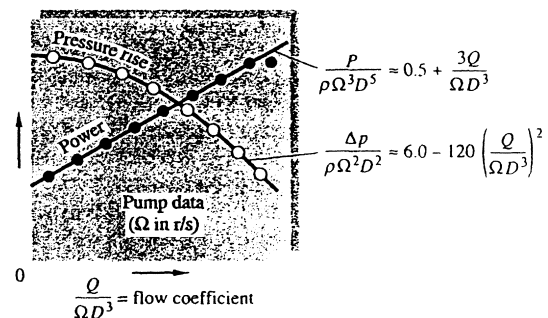

Fig. P5.61
**5.61** If viscosity is neglected, typical pump-flow results are shown in Fig. P5.61 for a model pump tested in water. The pressure rise decreases and the power required increases with the dimensionless flow coefficient. Curve-fit expressions are given for the data. Suppose a similar pump of 12-cm diameter is built to move gasoline at 20°C and a flow rate of 25 m3/h. If the pump rotation speed is 30 r/s, find (a) the pressure rise and (b) the power required.